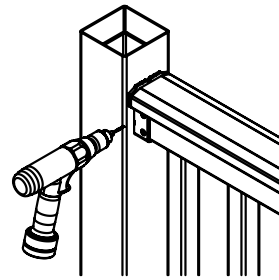
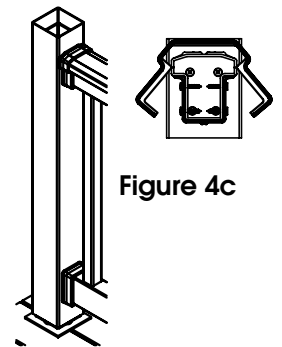

Figure 4b
Figure 4c
Once all balusters are in place, the top rail will rest in the mounting bracket. Pre-drill four 5/32" holes into rail. Use four (4) #12 x 1" S.S. flat head screws to fasten (see Figure 4b). Repeat the opposite post. Snap all four mounting bracket covers into place if applicable (see Figure 4c).